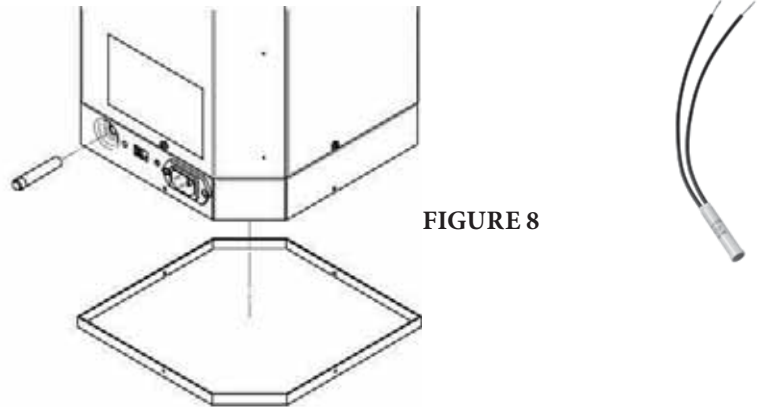

FIGURE 8
1. Remove lower base cover. The cover is a snap fit and can be pried off. Refer to Figure 8.